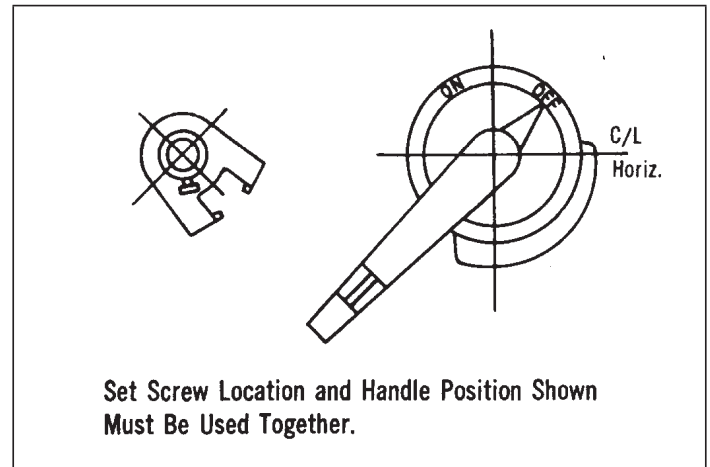

Fig. 4. Vertical Mounting.
**Table 2. Use Only For Handle Pos. Fig. 4.**